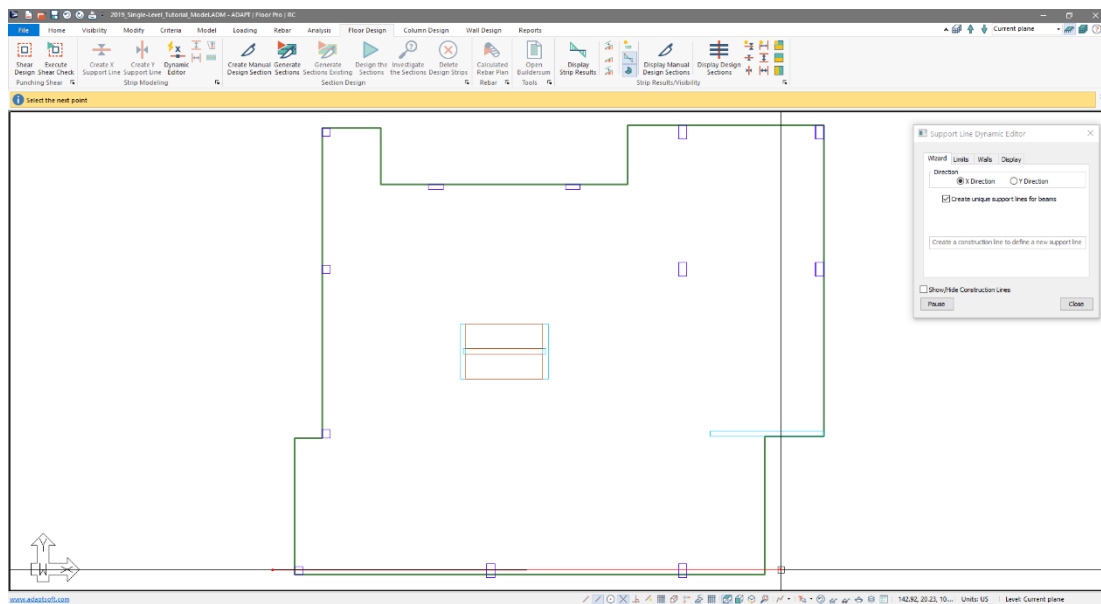

Figure 6-5
- Position your mouse along the column line but outside of the slab to the right of the floor as shown in **FIGURE 6-5**. Click a point in this location to see the line of supports the program will look for supports along.